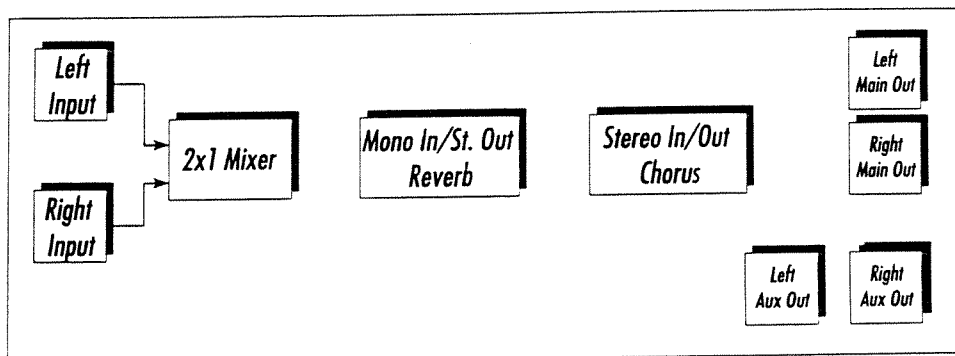

Fig. 3-5.
5. Use the Parameter <+> button to scroll until the top line reads RIGHT INPUT. The right input of the TSR-24 is now connected to input 2 of the 2x1 mixer Module. Now the Algorithm routing looks like Figure 3-5: